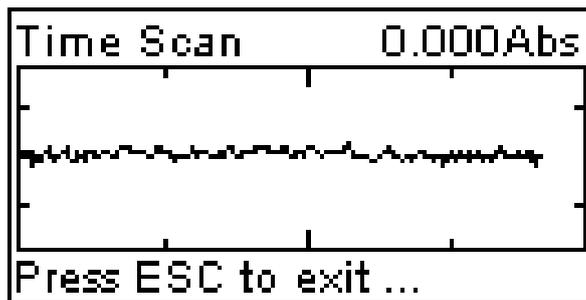
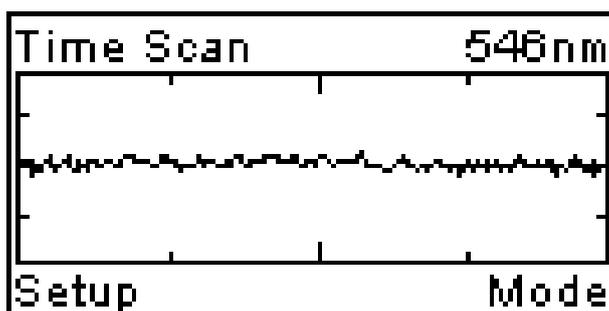

Fig 39
Fig 40
**【ZERO】** for blanking first and then press **【START】** to start the time scan, Fig. 39, after finish the time scan. Screen display is shown, Fig 40.